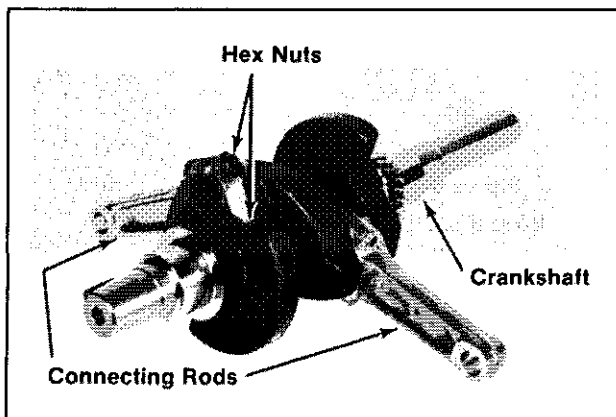

Figure 9-35. Removing Connecting Rods.
2. Remove the hex nuts, connecting rod caps, and connecting rods from crankshaft. Refer to Figure 9-35.